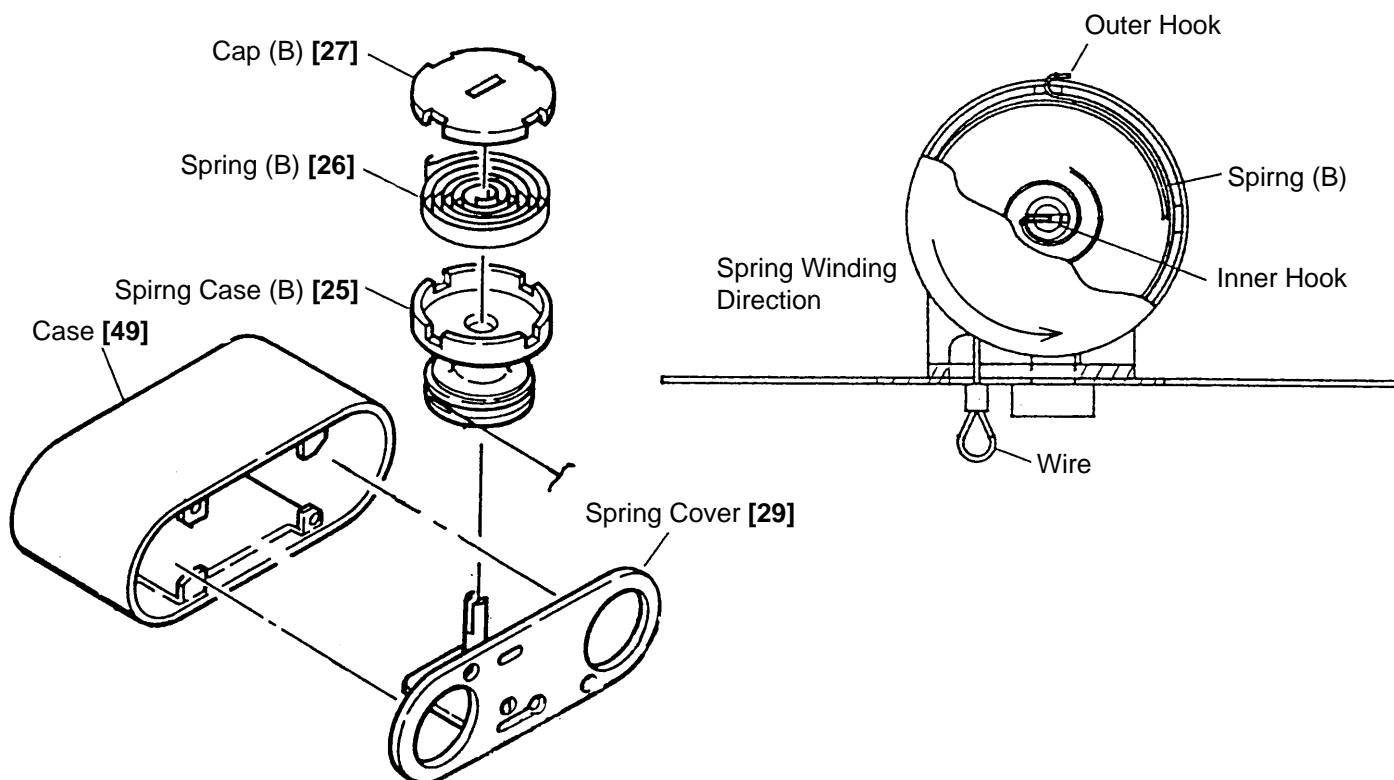

Fig. 2
(6) For Machines Shipped to West Germany Only
Spring (B) must be reassembled as described below. Assemble Spring (B) [26] into Spring Case (B) [25] so that the outer hook of Spring (B) is at the top, as illustrated in Fig. 2. Next, wind the wire into Spring Case (B) [25]. (The winding will be to the left when viewed from the upper side of Spring case (B) [25].) Then, fit Spring Case (B) [25] onto the spring shaft of the Spring Cover Ass'y [29]. (At this time, ensure that the grooved (notched) portion of the spring shaft is aligned with and fitted to the inner hook of Spring (B) [26].) Next, cover Spring Case (B) [25] with Cap (B) [27], being careful to ensure that the outer hook of Spring (B) [26] is properly fitted into one of the notched portions of Cap (B) [27]. Then, wind Spring (B) [26] two full turns, and secure the looped end of the wire in the slotted portion of the Spring Cover [29].